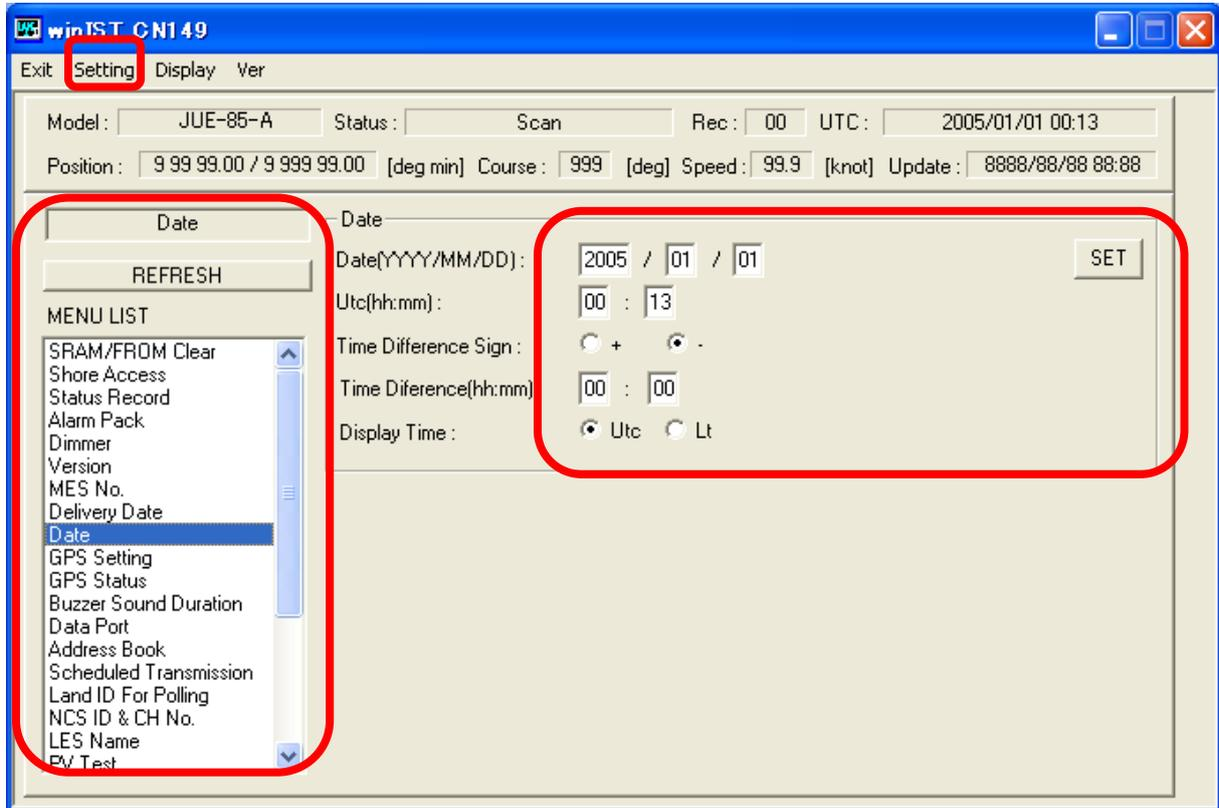

Fig. 4-11-1 [Date] screen
2. Operation except [Exit], [Display], and/or [Ver] is not possible while winIST is communicating with INMARSAT terminal(the function in the frame of **Fig. 4-11-1 [Date] screen** cannot be operated).
4. Operation except [Exit], [Display], and/or [Ver] is not possible while winIST is communicating with INMARSAT terminal(the function in the frame of **Fig. 4-11-1 [Date] screen** cannot be operated).